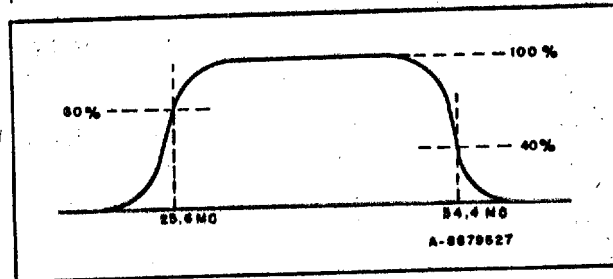
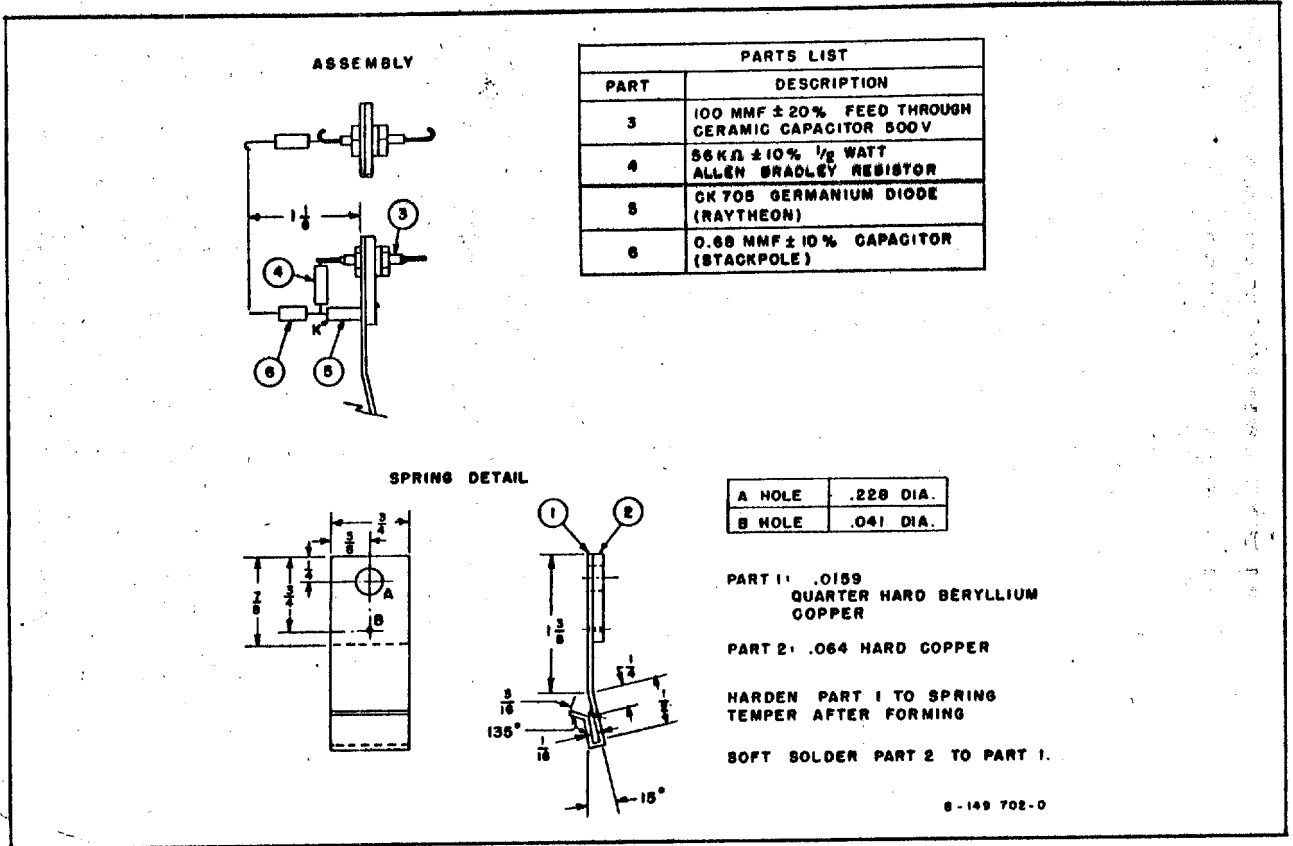

Figure RM-2—30 mc IF Response Curve
Figure RM-3—30 mc IF Alignment Jig
c. Connect the sweep generator to 2L17, ground 2V3-1, connect test equipment item 27(c) (see Figure RM-3) to the bottom end of 2C27, and attach the scope to the alignment jig. With the scope gain on maximum, adjust the sweep generator output for the minimum value providing an adequate picture. Align 2L20, 21 and 22 as above except place the 25.6 mc marker at the 60% response point and the 34.4 mc marker at the 40% response point as shown in figure RM-2.